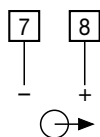

Fig. 4. Measuring output connection.
Connect the output leads for terminals ⑦ (-) and ⑧ (+) as shown in Fig. 4.